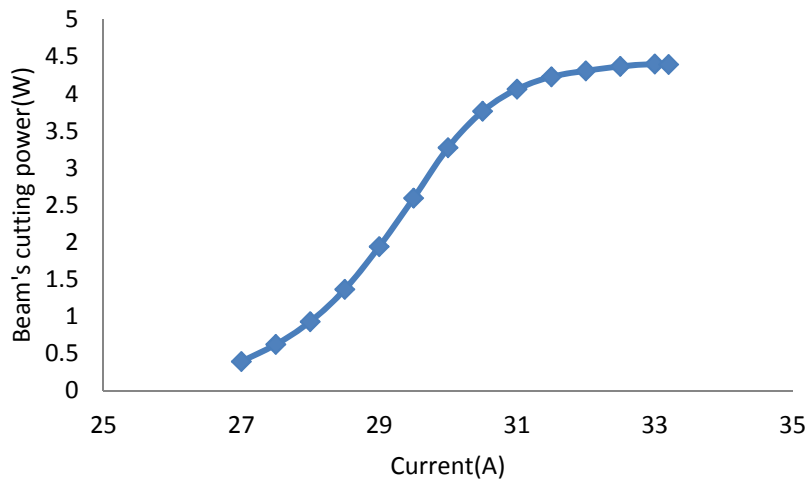
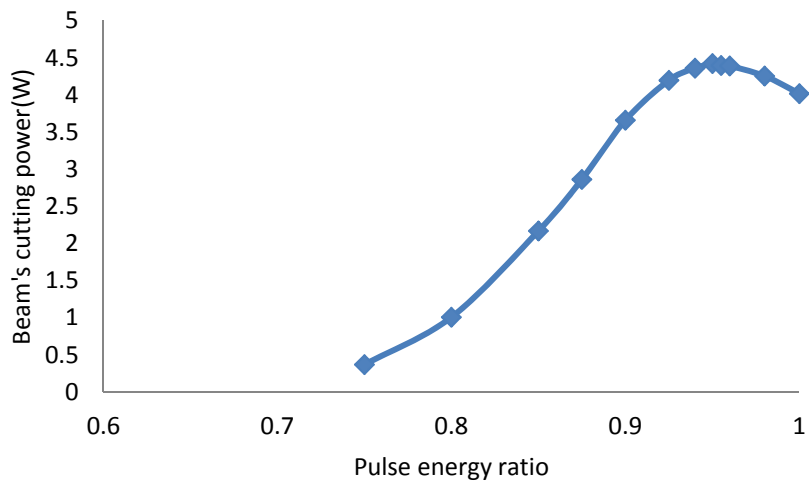

Figure 3 Power as function of current
Figure 4 Power as function of pulse energy ratio
- 10- Now you need to make the chart for laser power in each pulse. We need it so we don't have to make all the recipes for cutting different material again. Knowing what pulse energy we need we can simply choose from the chart instead of doing it all over again. The parameters are frequency (constant at 20kHz), current and pulse energy. Power efficiency and pulse energy of the laser system after first installation are presented in Figure 3 and Figure 4. 1- maximum at 95% 2-very nonlinear